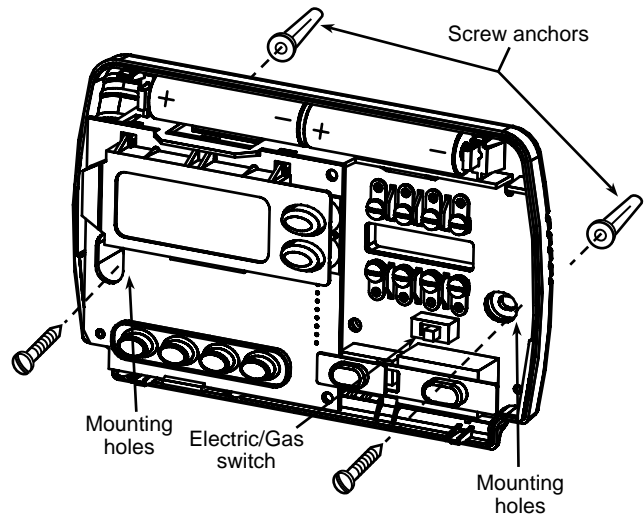

Figure 1. Thermostat Base
This thermostat is configured from the factory to operate a heat/cool, fossil fuel (gas, oil, etc.), forced air system. It is configured correctly for any system that DOES NOT require the thermostat to energize the fan on a call for heat. If your system is an electric heat or heat-pump system that REQUIRES the thermostat to turn on the fan on a call for heat, locate the ELECTRIC/GAS switch on the back of the thermostat (see fig. 1) and switch it to the **ELECTRIC** position. This will allow the thermostat to energize the fan immediately on a call for heat. If you are unsure if the heating/cooling system requires the thermostat to control the fan, contact a qualified heating and air conditioning service person.
5. Fasten base loosely to wall, as shown in fig. 1, using two mounting screws. Place a level against bottom of base, adjust until level, and then tighten screws. (Leveling is for appearance only and will not affect thermostat operation.) If you are using existing mounting holes, or if holes drilled are too large and do not allow you to tighten base snugly, use plastic screw anchors to secure subbase.
If "LO BATT" is displayed, the batteries are low and should be replaced with fresh "AA" Energizer® alkaline batteries. To replace batteries, install the batteries along the top of the base (see Fig. 1). The batteries must be installed with the positive (+) end to the left.